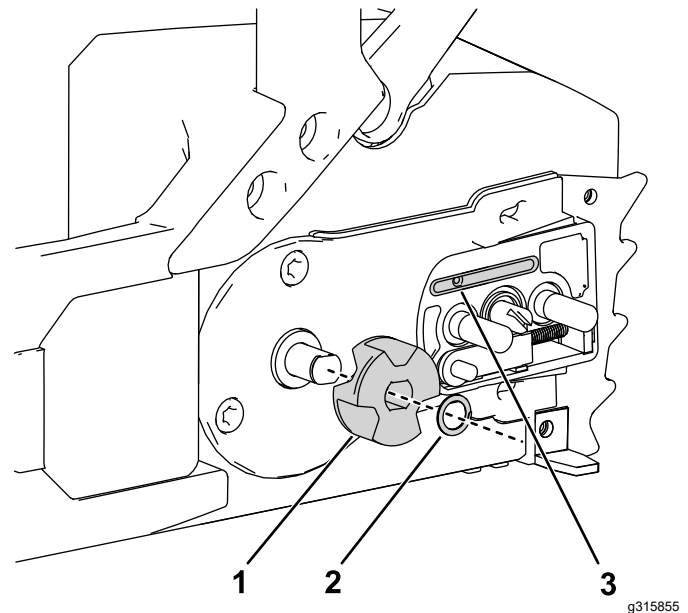

Figure 29
5. Remove the clip and drive sprocket from the chain saw (Figure 29).
9. Check the oil outlet (Figure 29) for debris and clean the area if necessary.